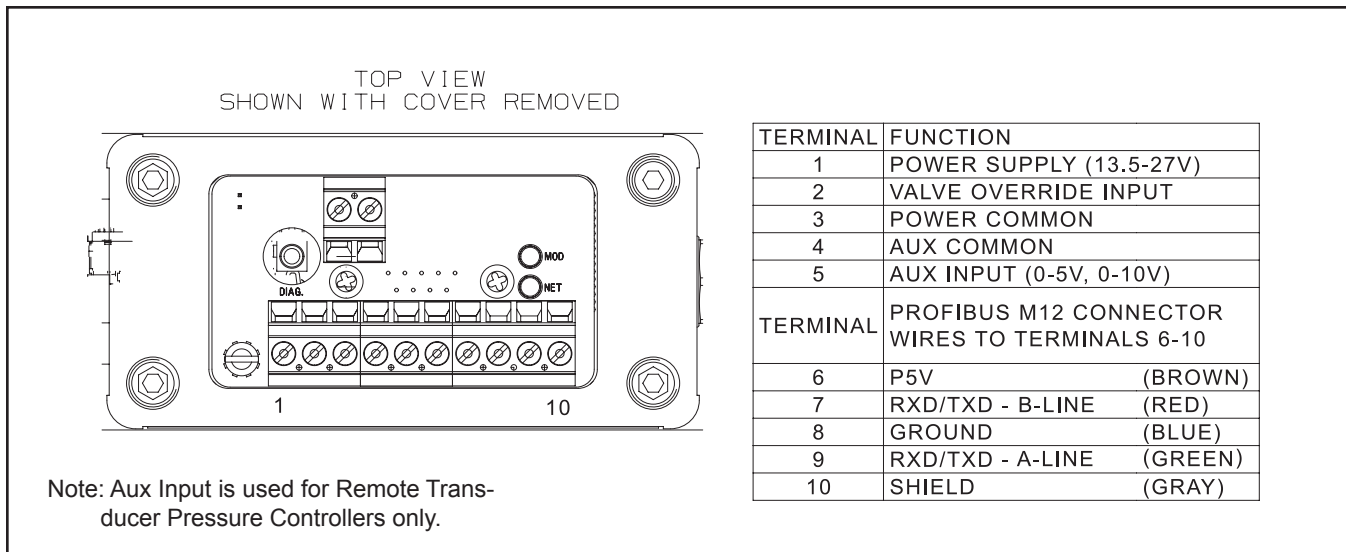

Figure 1-5 SLAMf Series Profibus Terminal Connections
The Brooks SLAMf is now equipped to support the Profibus communication protocol. Profibus is a fieldbus-based automation standard of Profibus and Profinet International (PI). Via a single bus cable, Profibus links controller or control systems with decentralized field devices (sensors and actuators) on the field level and also enables consistent data exchange with higher ranking communication systems. Profibus digital signal connects externally through an M12 connector (Figure 1-5), power via PG11/Conduit (also VOR Analog Signal).